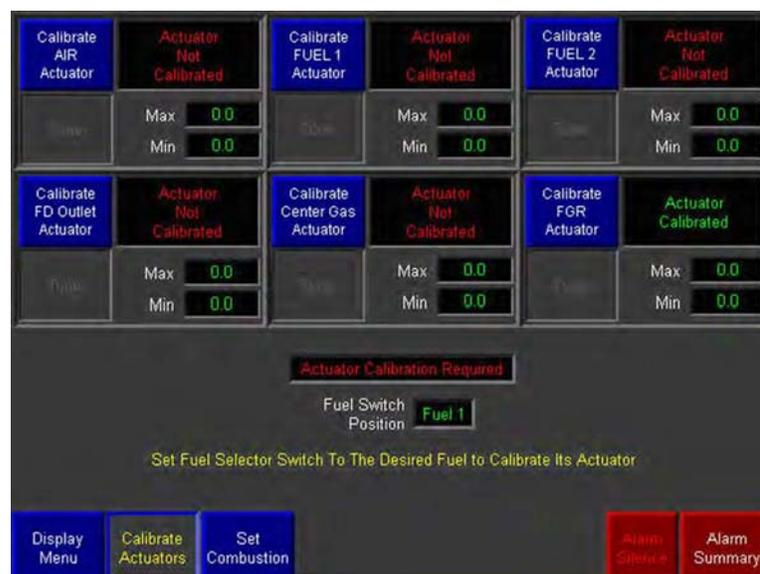

Figure 6-1 Actuator Selection display
From the Display Menu log in as either "Service" or "Factory" and select <Calibrate Actuators>. The display shown in Figure 6-1 will appear.
Figure 6-1 shows panels for up to six (6) actuators - the maximum number of actuators available. The actual number of actuators shown is directly linked to the options selected from the Configuration 3 display (refer to Configuration 3 in Section 5).